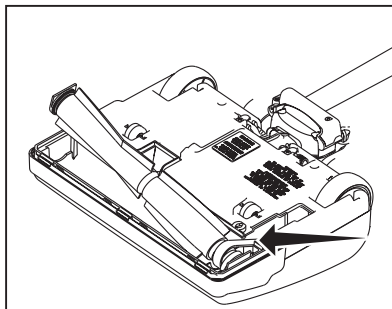

Fig. 1
- Loop the new belt around the motor drive shaft and the brushroll (Fig. 1).